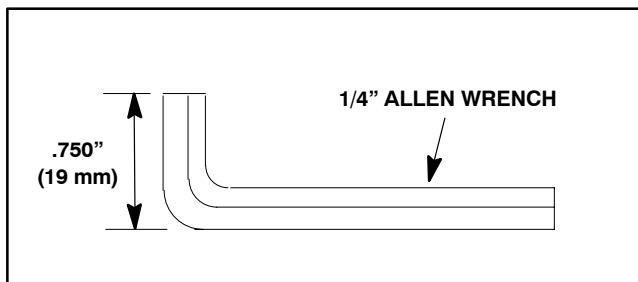

Figure 3
**NOTE:** Shorten a 1/4" allen wrench (Fig. 3) to allow access to socket head screws (item 2) that secure castor plate. If modified allen wrench is not available, remove front wheel to access socket head screws.
3. Loosen two (2) socket head screws (item 2) that secure castor plate to castor fork.
5. Tighten two (2) socket head screws to secure castor fork assembly.